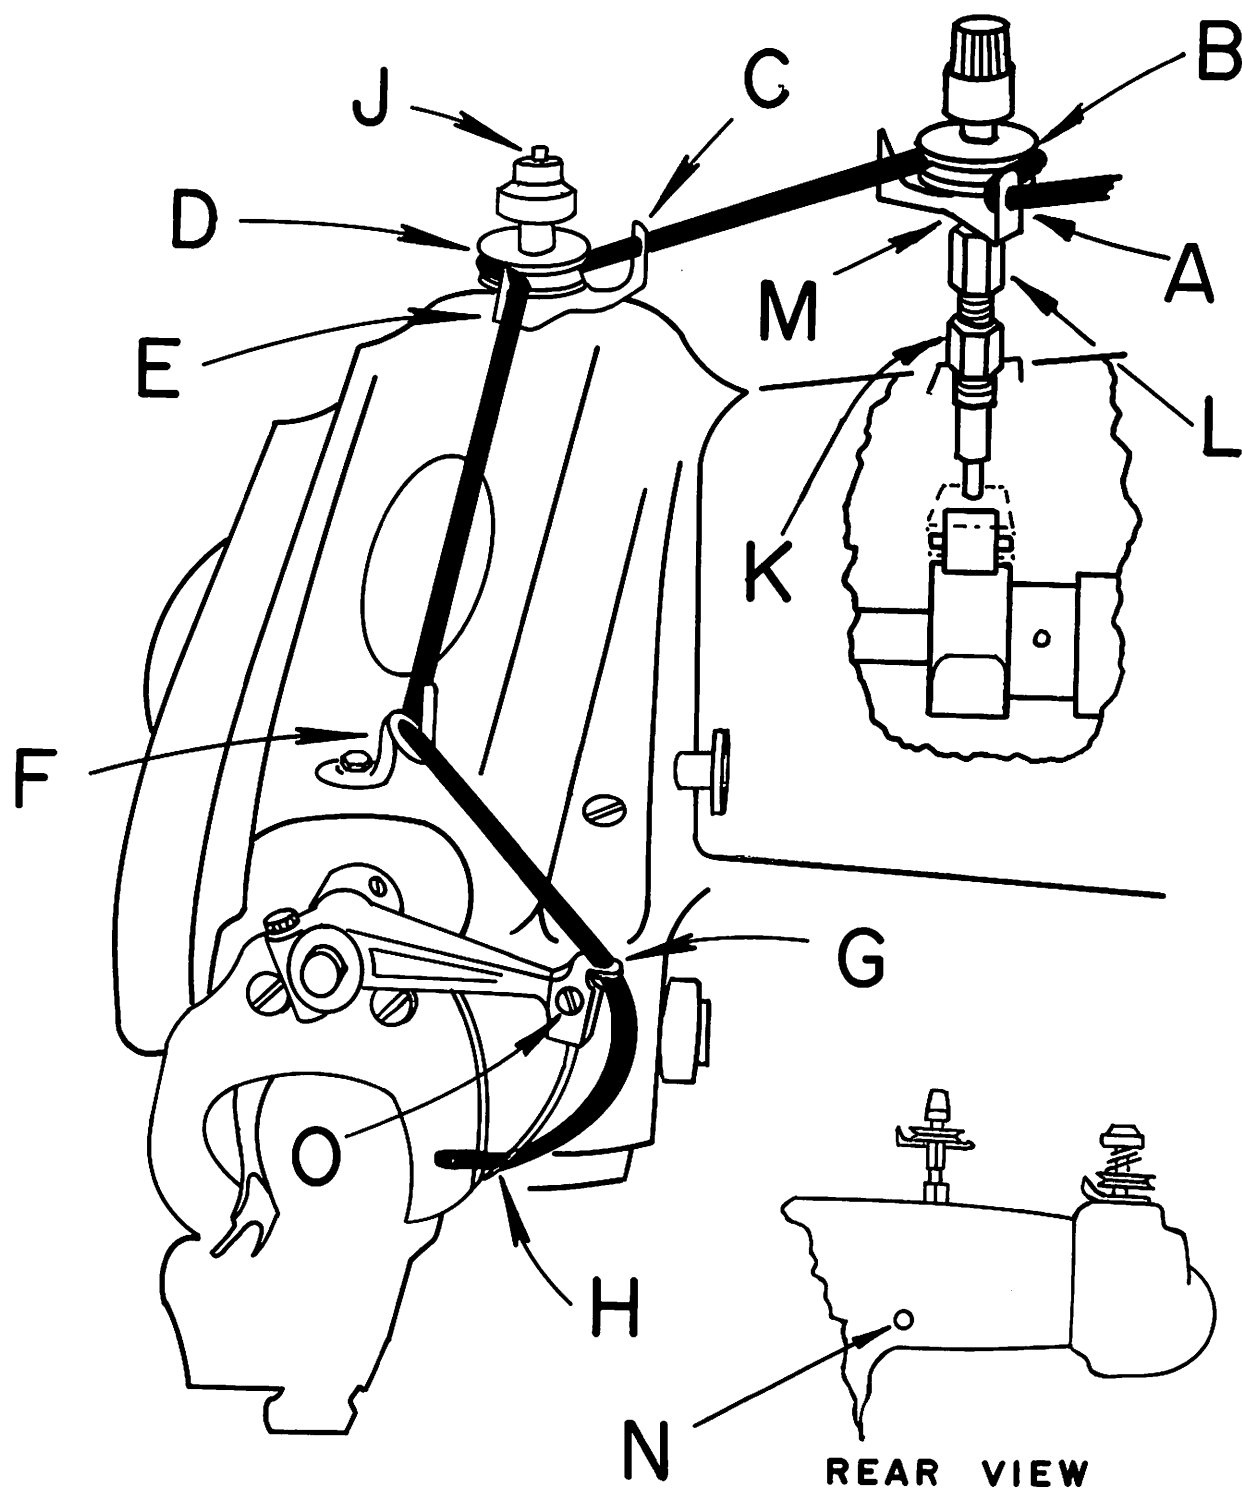

FIGURE 3
3. Referring to the threading chart in Figure 3, it can be seen that the threading procedure is a simple one. The thread is passed from front to back through guide hole "A". It then slides between the two tension discs "B" and is carried to the left through guide hole "C". It then slides between the two tension discs "D" and is brought forward along "E" through the front thread guide "F". It then is passed through the needle clamp guide hole "G", then through the eye of the needle "H", entering on the underside of the needle and being removed at the top. The thread should be pulled through to extend past the eye of the needle by a few inches.
uniform thread tension over seams and vents. This tension is factory adjusted when the machine is sewed off. Turn the handwheel clockwise as you pull on the thread. A distinct locking and releasing of the thread should be felt twice with each revolution of the handwheel. In the event a minor adjustment must be made, do the following referring to Figure 3, release locking nut Item "K" (using a 9/16 open end wrench) just enough so that the tension assembly can be moved. Turn Item "L" (using a 1/2 open end wrench) clockwise for more release and counter clockwise for less release. For best results, keep release of thread to a minimum. Retighten release locking nut Item "K". If necessary to reposition thread guide turn Item "M" (using a 3/8 open end wrench).
2. If an adjustment is needed, the tension lift cam located directly under the release tension assembly can be reset. Open the top window plate, looking in, place a 3/32" allen wrench through the opening in back of the machine, Item "N" Figure 3, and loosen the unmarked screw. Insert the same 3/32" allen wrench into the marked screw, loosen and hold in place. Turn the handwheel clockwise until the eye of the needle is in line with the right edge of the presserfoot and tighten screw. Check the timing of the